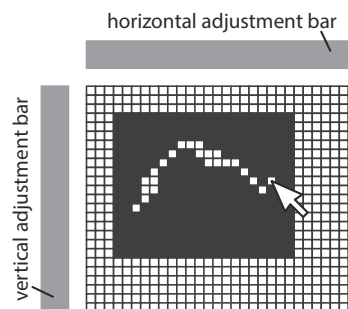

Fig. 82
- To delete an individual pixel move the cursor to the relevant pixel in the editing area and click the left mouse button once, **Fig.82**.